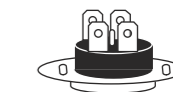

Fig. 15
- for FS2/FS4/FS6 series horizontal-type water heaters: press the button, located in the center of the thermal switch, placed near the heating element (with a round shape), until it clicks, Fig.15;